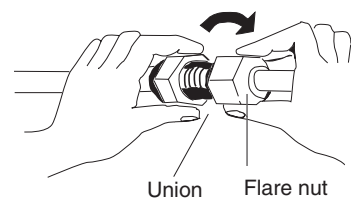

Fig. 1-114
- (3) For proper connection, align the union tube and flare tube straight with each other, then screw on the flare nut lightly at first to obtain a smooth match. (Fig. 1-114)